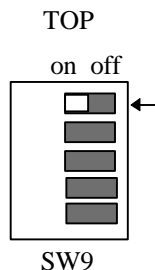

Figure 2
5. Change SW9 to the setting in figure 2: